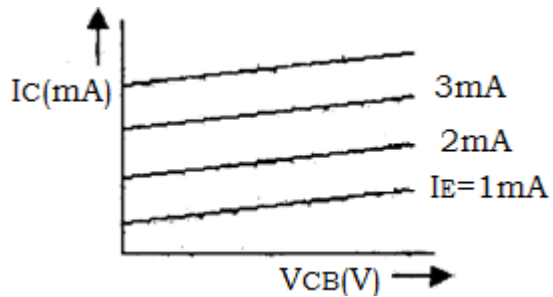

Figure 3 Output Characteristics
4. Plot the output characteristics as shown in fig.3 and calculate h-parameters h_{fb} , h_{ob} from output characteristics.